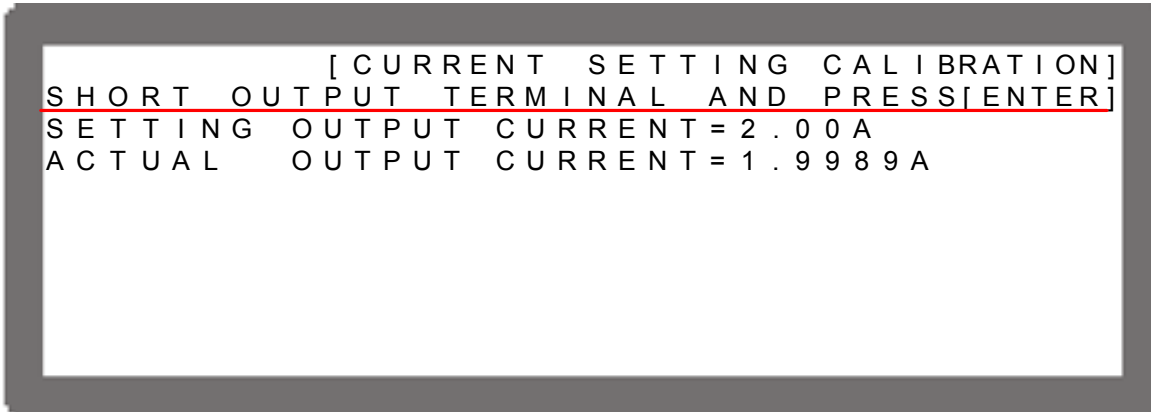

Figure 3-111
3. Press “” to confirm and entering into current calibration options as Figure 3-111 shows.